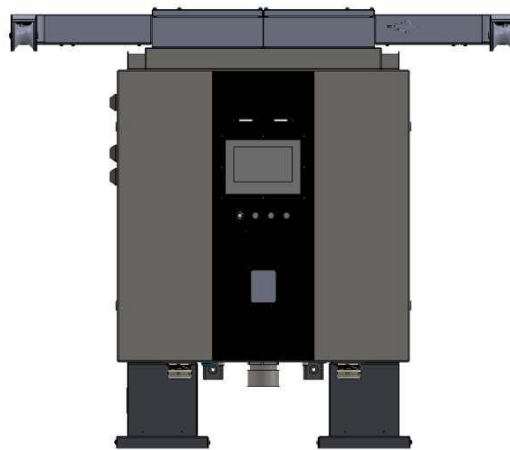

Figure 25 Effect drawing of CMS installation
(17) The completed effect diagram is shown in Figure 25.